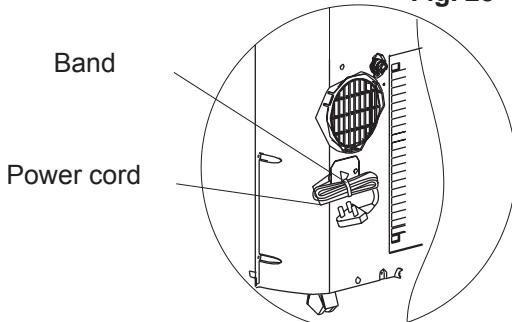

Fig. 29
- Stop the appliance and unplug it, wrapped the cord and bundle it with the tape (Fig.29). Remove the batteries from the remote controller.